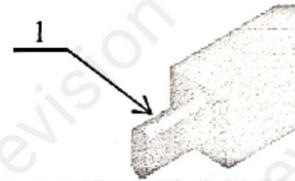

Figure 17
22. In the drawing shown in figure 17 below, the reference 1 indicates a